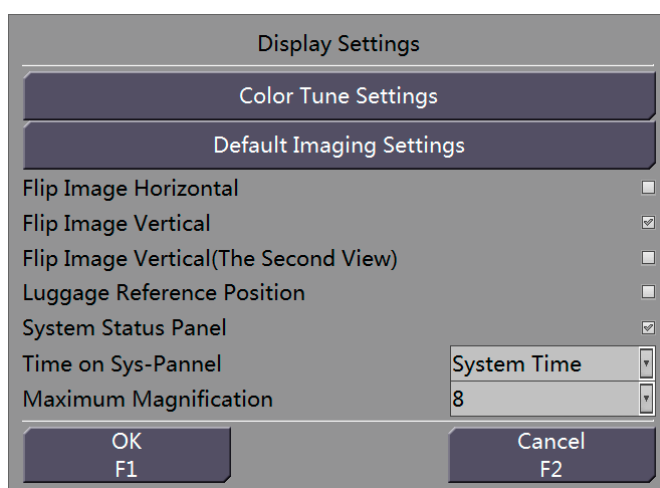

Figure 18-7 Interface of Display Settings
Step 2 In the System Settings, choose Display Settings. Press the Increase key on the operation keyboard to display the Display Settings interface, as shown in Figure 18-7.